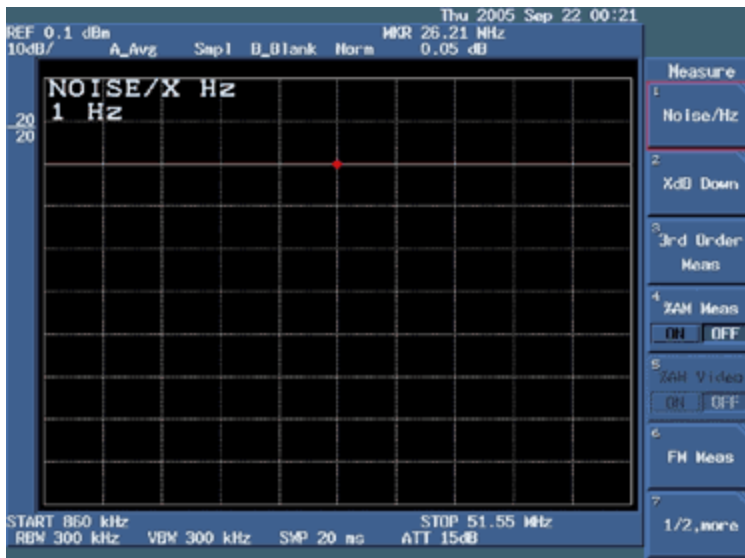

Figure 7. Selecting Noise/Hz for return loss measurement setup.
2. Press soft key #1 (Noise/Hz) as shown in Figure 7.